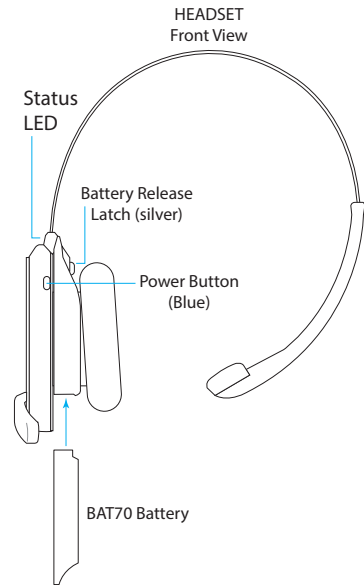

Fig. 3.3
1. Install a charged BAT70 battery into the headset and press the power button to turn it on (see Fig. 3.3). The LEDs flash green and red.